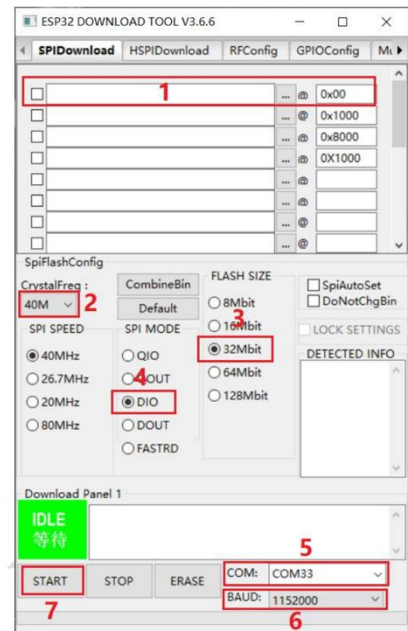

Figure 4 (Fig.4)
2. As shown in Figure 4 (Fig.4) on the right: select the firmware path to be burned in 1, the address is usually 0X00, and remember to tick the front after setting; Select 40MHz for the system clock at 2; Select 3 locations for the size of Flash as 32Mbit; Select SPI MODE to DIO mode at 4; Select the port number recognized by the current board on the computer at 5; Select the serial port baud rate at 6 (the higher the value, the faster the firmware download rate, the maximum support is 1152000bps);